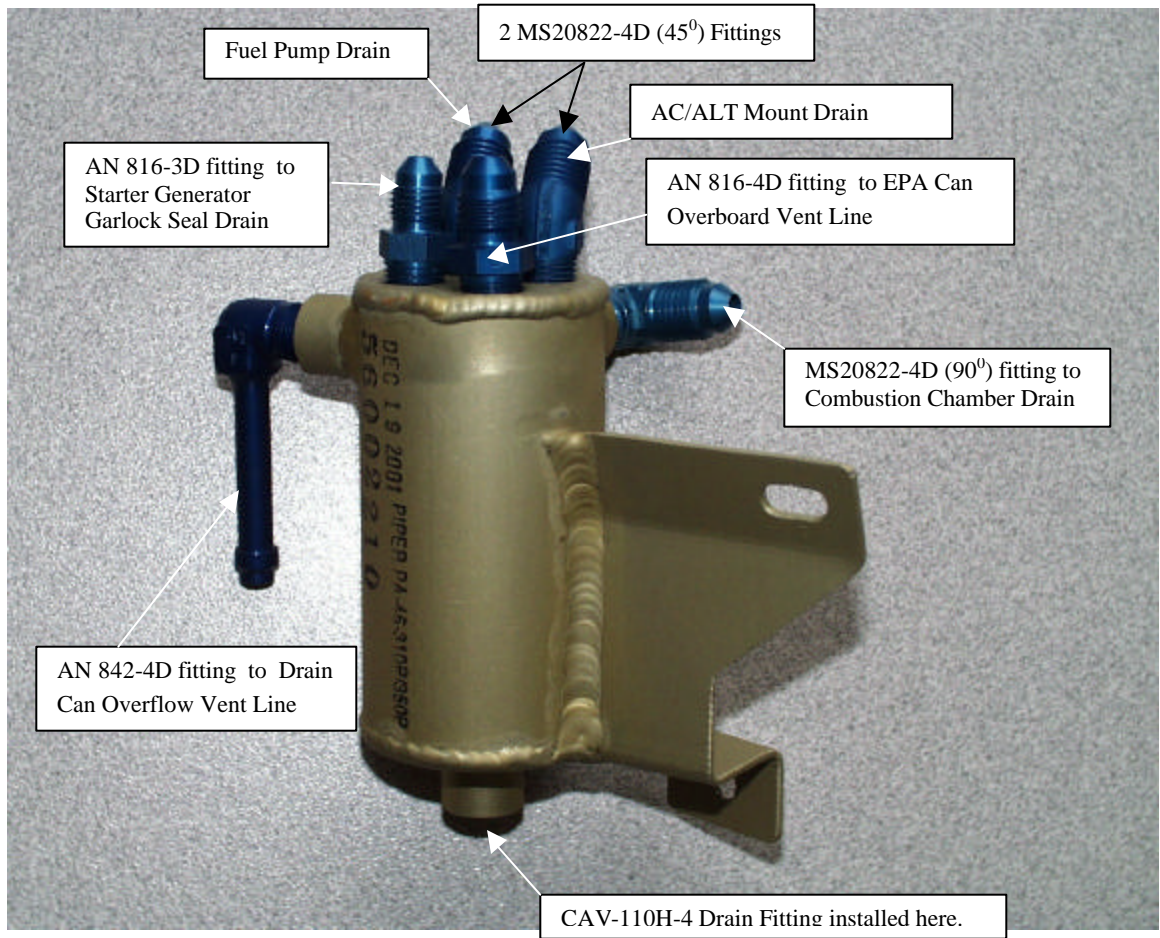

Figure 2-2. Drain Can and Lines
2. Route the black rubber drain lines to the appropriate fitting on the drain can as shown in Figure 2-2. Cut the lines to the correct length and install an MS27404-3 or 4D fitting to each of the hoses. Connect the hoses to the appropriate fitting on the drain can.